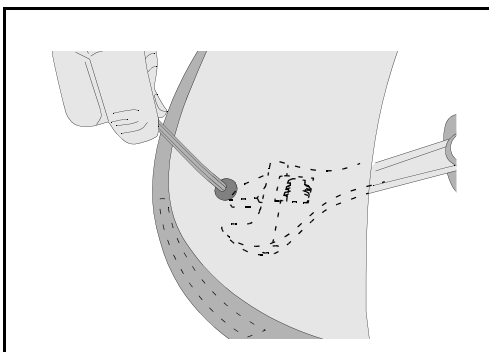

Figure 12.
12. Using an allen key and a wrench, start to tighten one end while at the same time applying pressure to the top front corner near the screw to ensure the rubber gasket is flat against the roof and not curling under itself. Do not tighten completely at this stage. Do the same for the other side. Check to ensure the clips have not moved and then tighten both sides. Do not over tighten. The recommended torque setting for the screws and nuts is 5-7 lbf-in. See Figure 12.